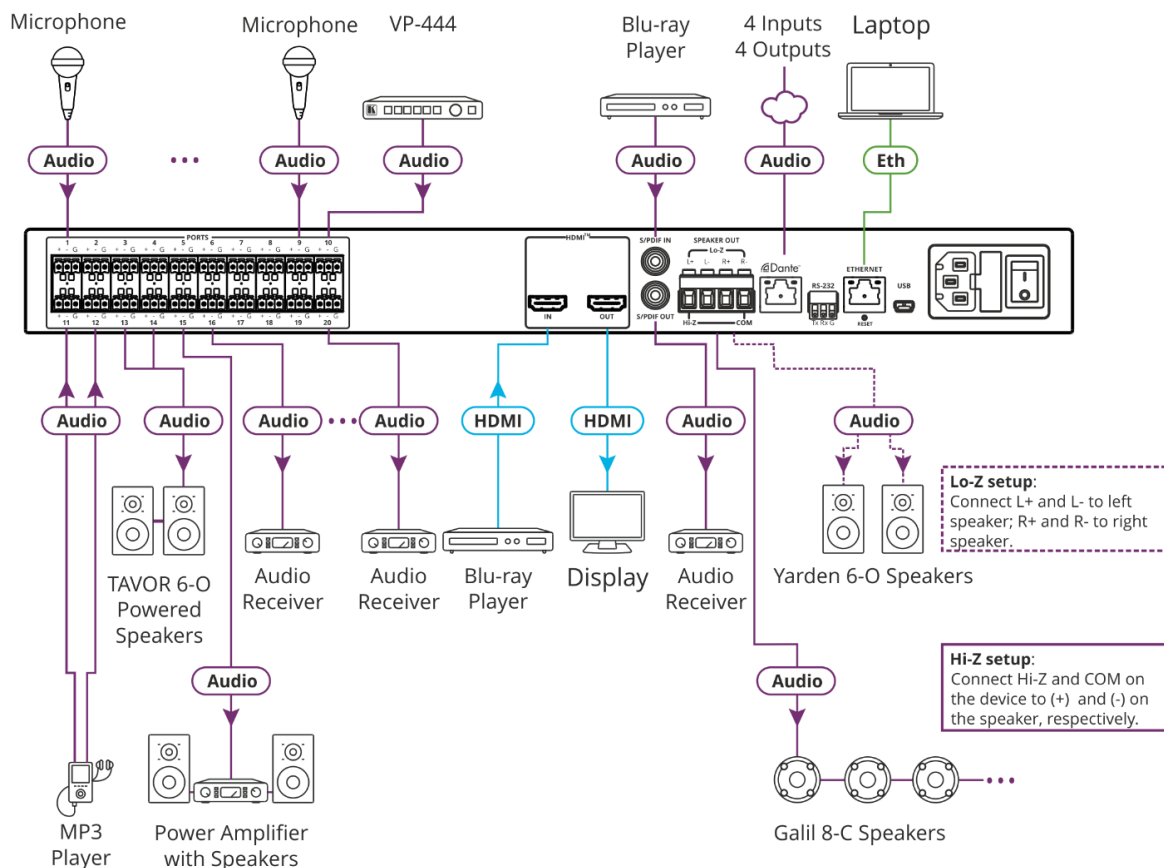

Figure 5: Connecting to the AFM-20DSP Rear Panel
To connect AFM-20DSP as illustrated in the example in Figure 5:
- A source (for example, a Blu-ray player) to S/PDIF IN (11).
- S/PDIF OUT (10) to an acceptor (for example, an audio receiver).
5. Connect the SPEAKER OUT Hi-Z OUT or Lo-Z OUT 4-pin terminal block connector (12) as follows:
6. Connect the Dante RJ-45 port (13) to up to 4Tx and for Rx audio channels via the network.
7. Connect the RS-232 3-pin terminal block connector (14) to the RS-232 port on a controller (for example, a laptop) to control the **AFM-20DSP**.
8. Connect the ETHERNET RJ-45 port (15) to the Ethernet to control the **AFM-20DSP** and use for firmware upgrade.
9. Connect the mini USB connector (16) to a control device (for example, a laptop) to control the **AFM-20DSP**.
10. Connect the power cord to the **AFM-20DSP** mains socket (18) and to the mains electricity (not shown in Figure 5).